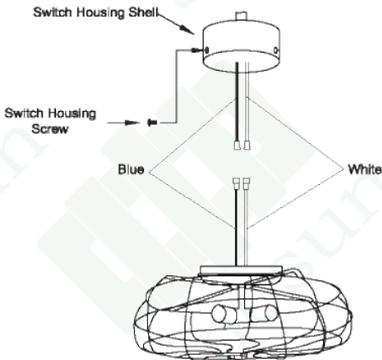

Fig.9
Depending on which mode! of Heitage Square you are installing, you will either have the 5 Light Turtle Cluster (Fig.9). Please follow instructions under the correct light fixture.
Remove switch housing screws. Press fixture up into switch housing shell, aligning screw holes. Insert (3)screws and tighten firmly (see Fig.9).